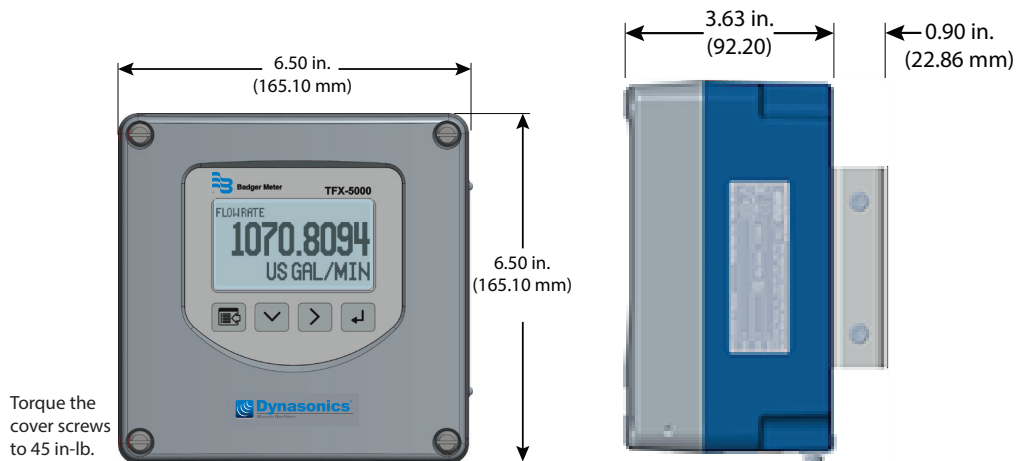

Figure 2: Remote mount enclosure dimensions
- See Figure 2 on page 6 for enclosure and mounting dimension details. Allow enough room for door swing, maintenance and conduit entrances.